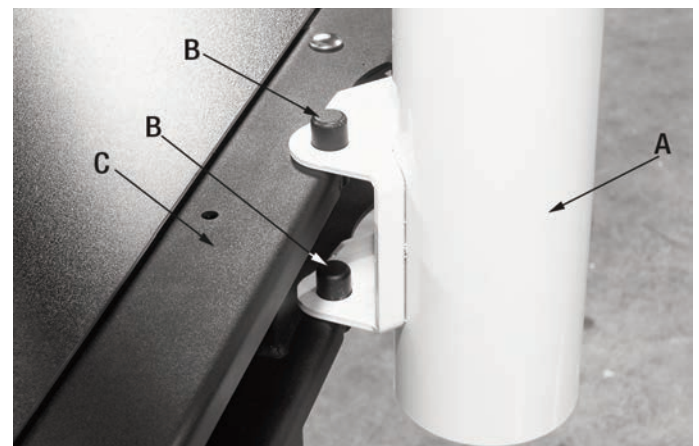

FIGURE 7
- 1) Install the boom (A) Fig.7 on the two mounting pins (B) on the boom mount (C) and swing the boom over the table of the table saw.